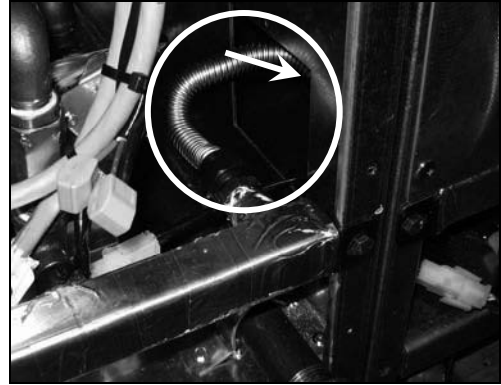

Figure 4. Connect flexlines and align cabinet connection holes.
6. With the cabinets together, carefully slide the drainpipe halfway into the rubber boot. Connect the drain-flush and oil-return flexlines (Fig. 4, arrow). Align the cabinet connection holes, front and back (Fig. 4, circle).